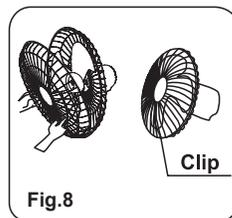

Fig.8
3. Open the five latch clips on the rear guard. Align the logo on the front guard so that it will read horizontally. Insert the edge of the front guard into the fixed clip at the bottom of the rear guard. Use the five latch clips to secure the two guards together. Fig. 8